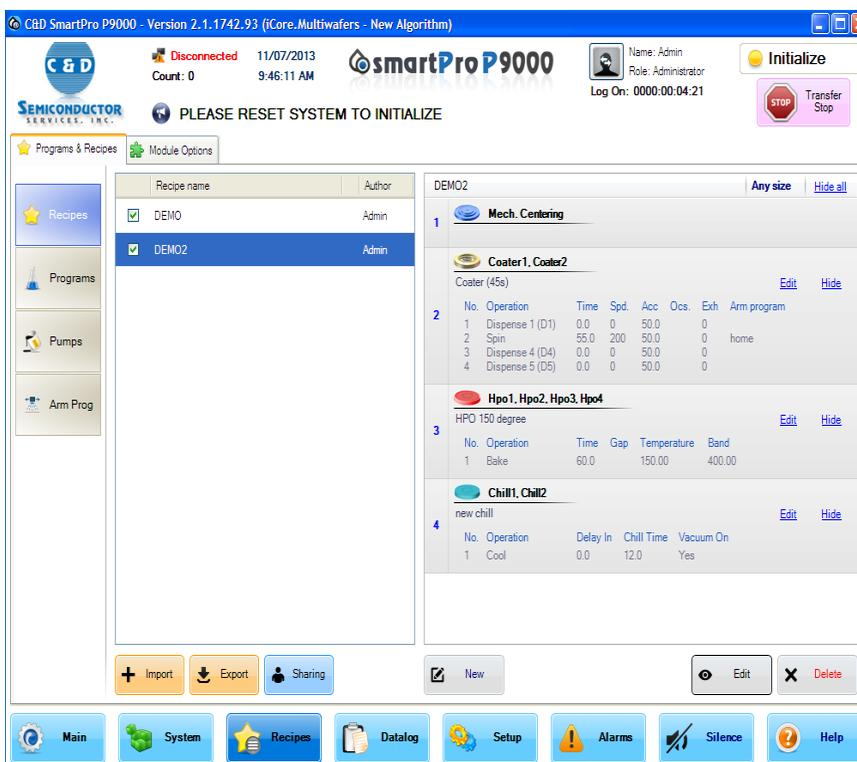

FIGURE 3-28: Selecting a recipe to edit
2. From the side menu, click Recipes. The Recipes page opens, showing all available recipes. See Figure 3-28.